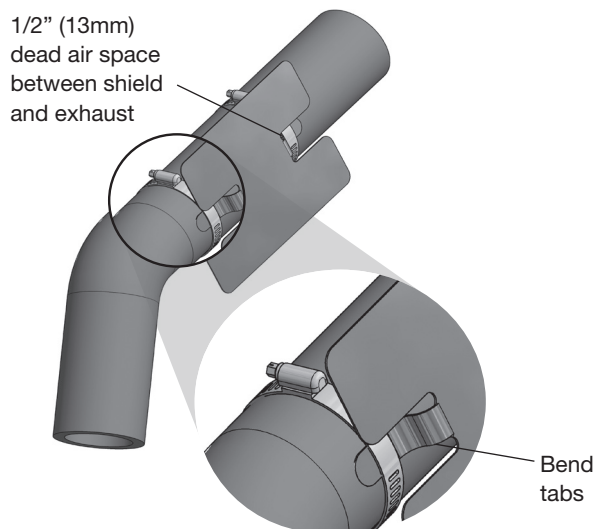

fig. 11
1. Attach the metal heat shield to the exhaust where it is closest to the passenger's (right) side air spring. (fig. 11).